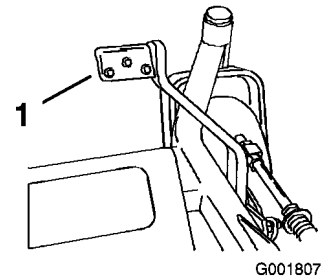

Figure 19
2. Press on the lift assist lever while pulling up on the height-of-cut lever (Figure 19).